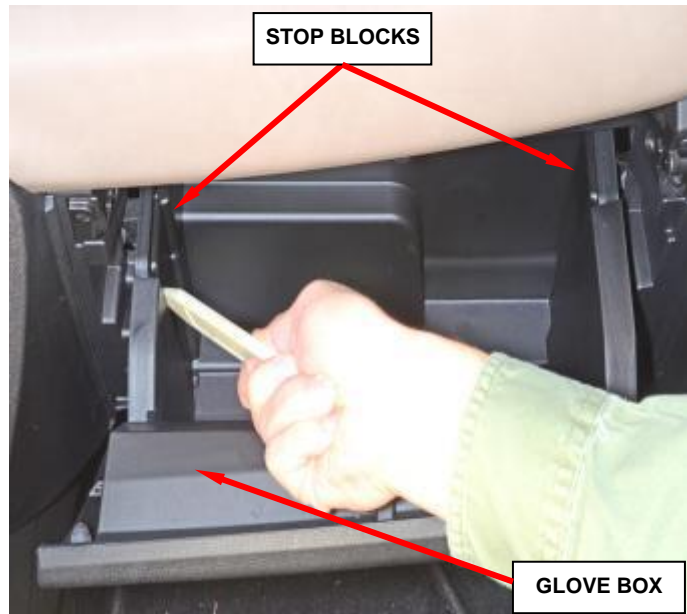

Figure 24 – Glove Box Stop Blocks
- a. Open the glove box, using a trim stick or equivalent, remove and save the two stop blocks from the glove box (Figure 24).